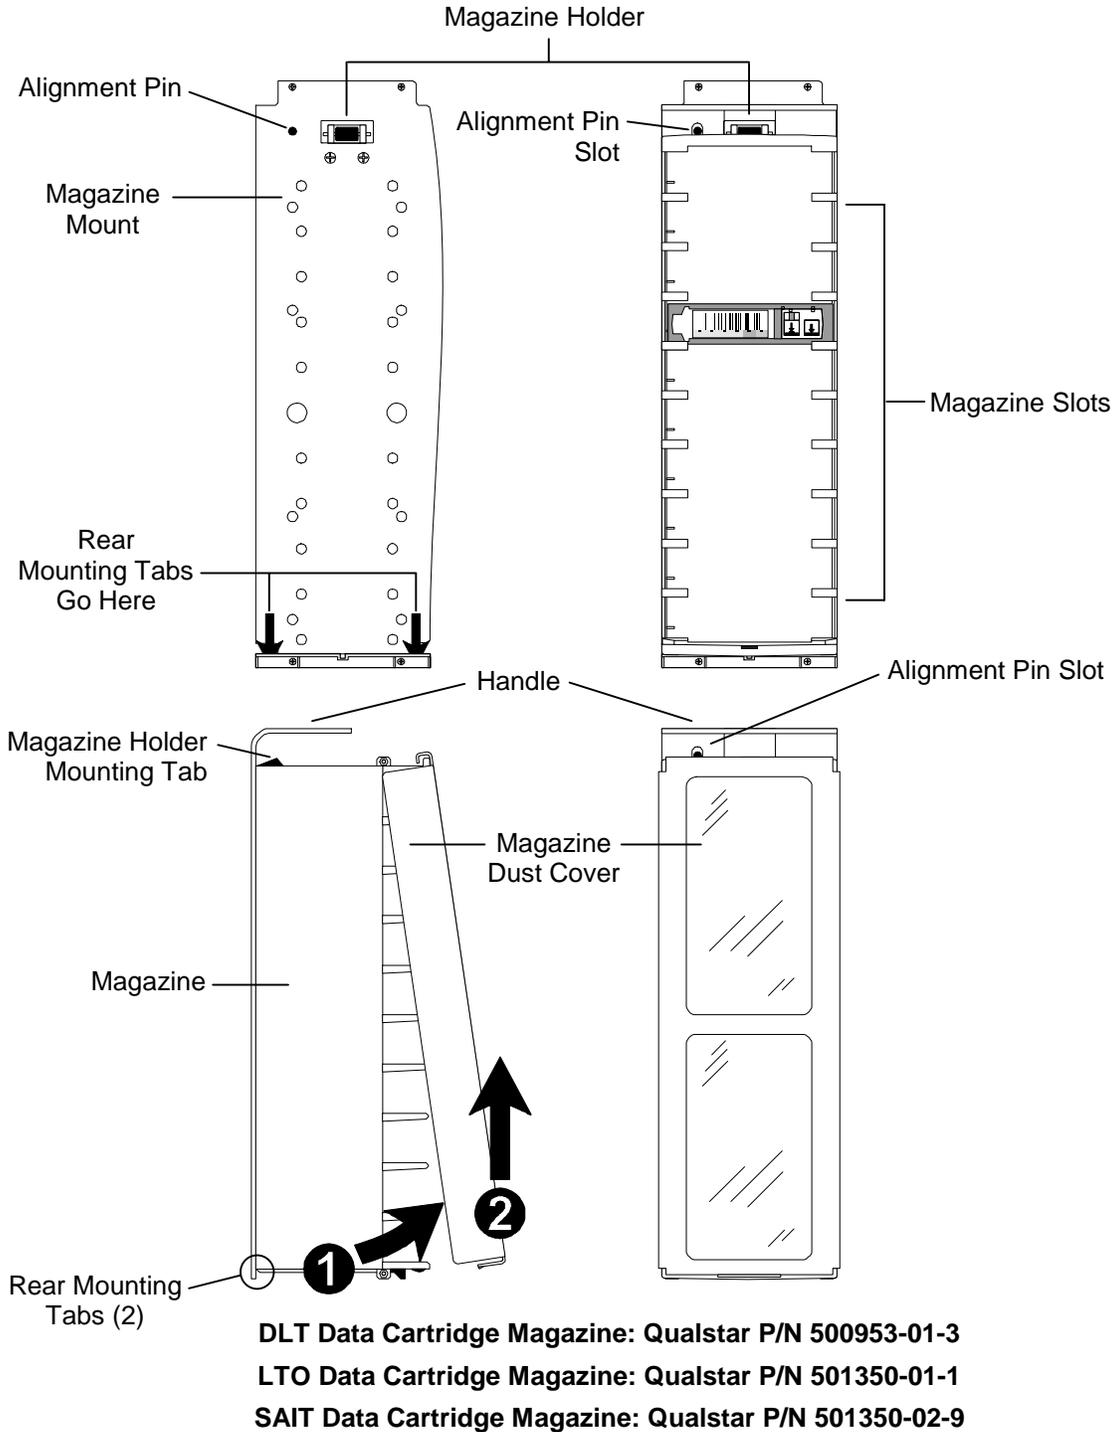

Figure 3-11 Magazine and Magazine Mount (DLT model shown)
TLS-6000 magazines hold up to ten tape cartridges while TLS-5000 and TLS-8000 magazines hold up to eleven tape cartridges. A magazine and its cartridges can be removed from the TLS and stored as a unit with a dust cover. Before storing a magazine, be sure to install its dust cover. Magazines snap onto and off of their mounts without the use of tools (see Figure 3-11).
- Always remove a magazine's dust cover, before installing the magazine in a TLS, as shown by arrows 1 and 2 in Figure 3-11.
The TLS contains one or more magazine mounts, (see Figure 3-11). Upgrade kits are available for the following models, which double the number of magazine mounts.